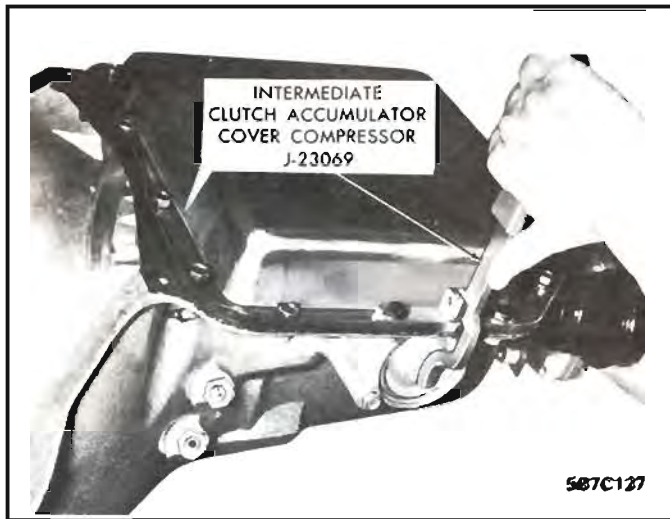

Figure 44 1-2 Accumulator Cover Removal
1. Install Tool J-23069 to compress intermediate clutch 1-2 accumulator cover and remove retaining ring. See Figure 44.
3. Install J-23069 tool and compress intermediate clutch 1-2 accumulator cover and install retaining ring. *See Figure 44.*